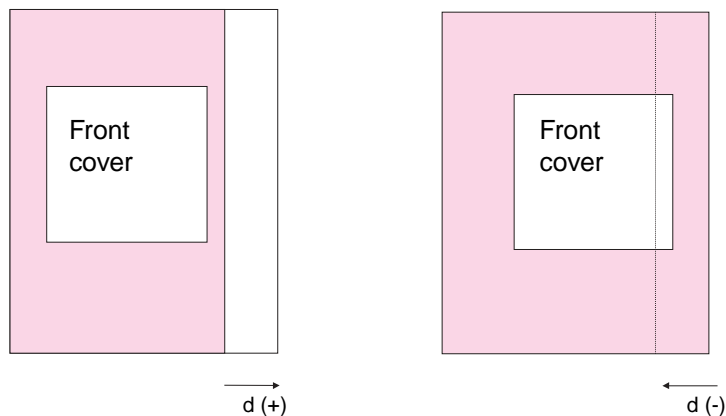

Figure 184.
- 2 Measure the distance “d” (see figure 184).